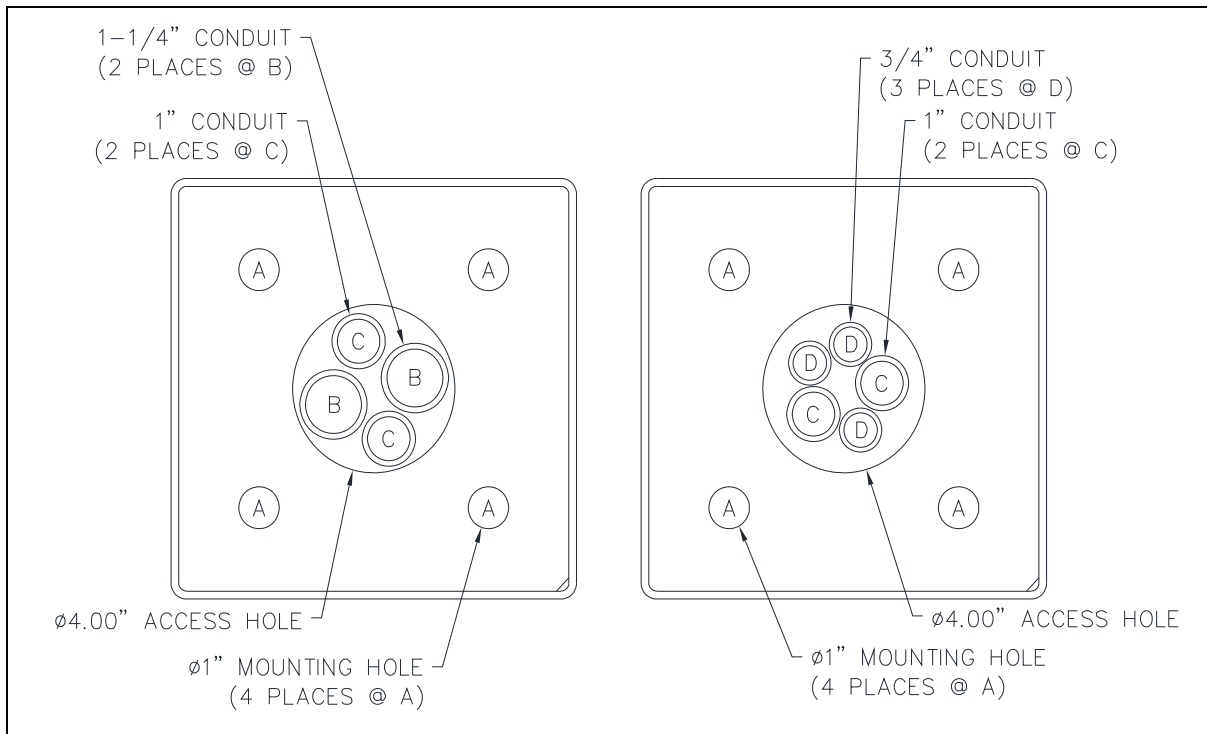

Figure 2. Sample conduit arrangements within tower
- Consideration for power, Ethernet, telephone, 75-ohm RG6 cable, and any other customer wiring determines the number and size of the conduit entries (see Figure 2 for typical conduit arrangements).